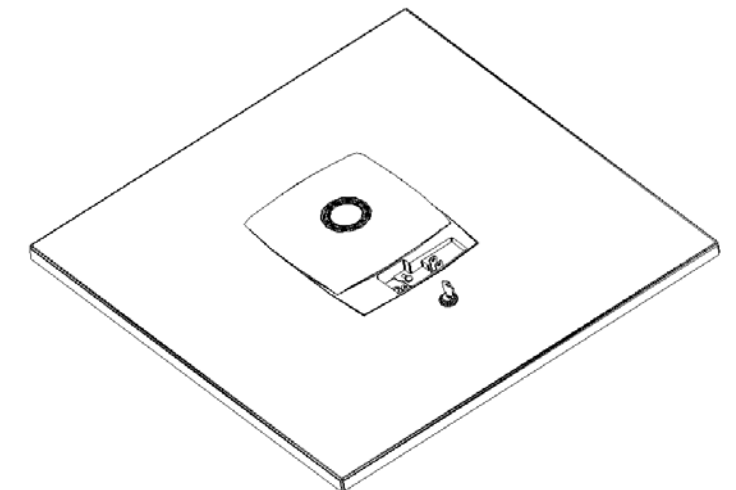
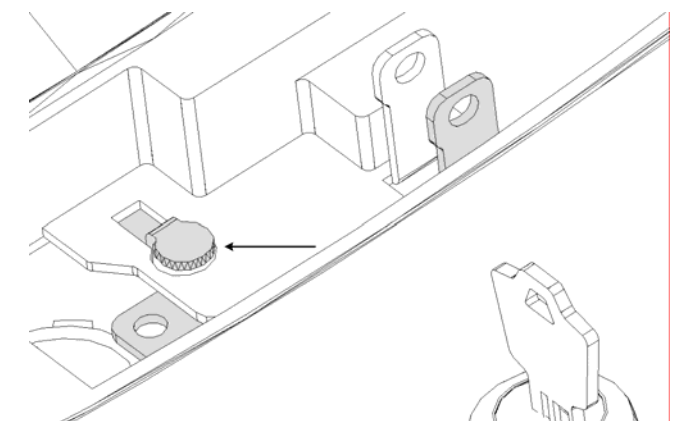

Figure 4 - AP Installation
Figure 5 - Close-up showing proper seating of tab within key slot (Cisco mounting plate shown in gray)
Step 5 – Open the access door on the top of the Cisco 1130 access point. Place the access point in the opening of the AP mount (reference Figure 4) with the opening in the access door closest to the key lock. If the key is turned the proper direction, the access point should drop in and self-center itself so that the tab on the mounting plate falls into the key slots on the bottom of the mounting plate (reference Figure 5).
**NOTE:** If the tab and key slot do not align properly, turn the key 180° and repeat step 5.
Step 6 – After verifying that the access point is properly seated within the opening, turn the key 180° to lock the Access Point in place. The key should require minimal effort to turn. If excessive force is required to turn the key, verify that the access point is properly seated within the opening and then re-try turning the key.